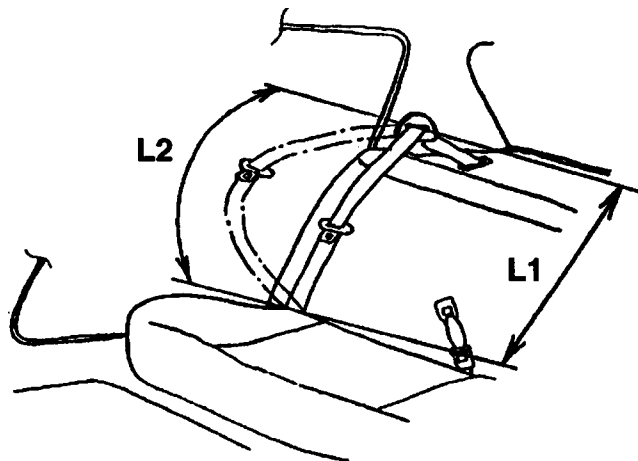

Figure 3
***3** For TMC production Corolla Sedan (on and after April, 1990 production, '91, & '92 models), if dimension "L2 & "L1" is under 13 inches (see figure 3), the extender **must not** be used.
2. IF SEAT BELT DOES NOT LATCH, THEN MEASURE THE DISTANCE FROM SEAT BELT LATCH EDGE TO THE SEAT BELT BUCKLE, AS SHOWN IN FIGURE 3, AND NOTE THE DIMENSION.